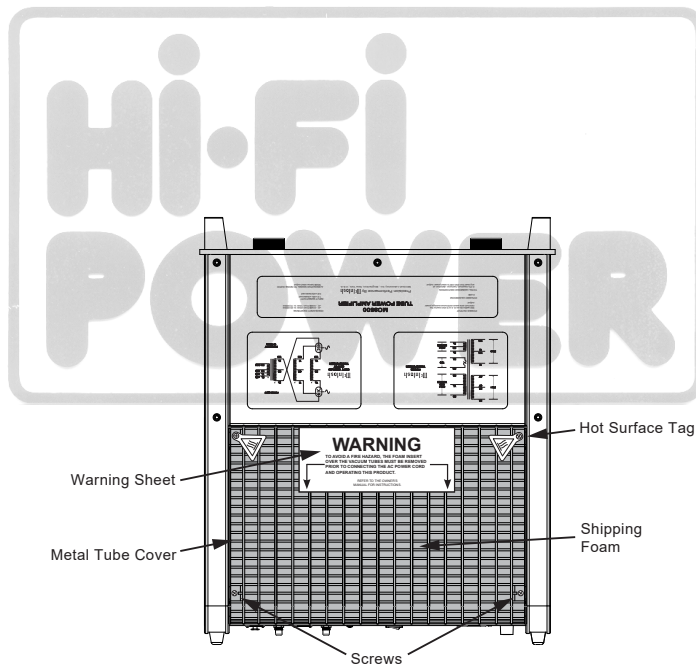

Figure 1
1. Orient the MC3500 so the rear of the Power Amplifier is facing you and remove the Warning Sheet. Refer to figure 1.
2. Remove the four screws and the two Hot Surface Tags located on the top of the Tube Cover by using a #2 Phillips Head Screw Driver. Refer to figure 1.